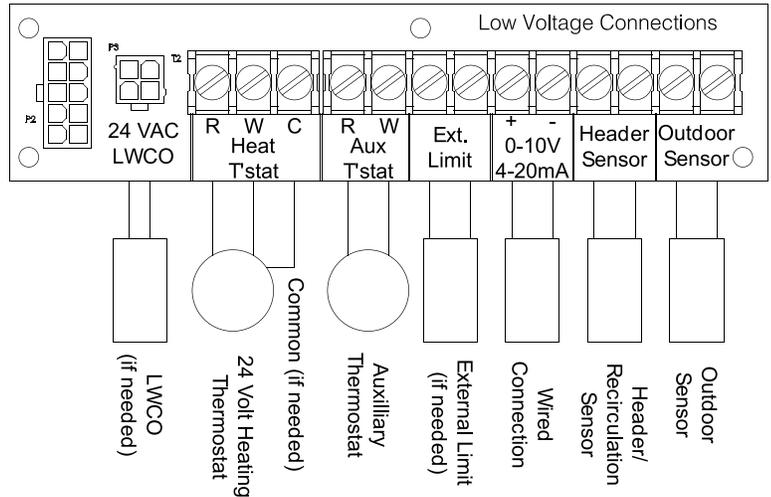

Figure 13-3: Low Voltage Connections
- Connect jumper, time of day clock or momentary push button to "Aux T'Stat" terminals per Figure 13-3.
- Connect recirculation temperature sensor to "Header Sensor" terminals per Figure 13-3.
NOTICE: Boiler is equipped with a UL 353 listed high water temperature limit. This limit provides boiler shutdown in event boiler water temperature exceeds set point of control. Certain local codes require an additional water temperature limit. If necessary, install an additional water temperature limit (Honeywell L4006 Aquastat). Wire as indicated in Figure 13-3.
1. All low voltage field connections to boiler are made on Low Voltage Connections terminal strip (see Figure 13-3) located on left side of bottom panel. Route all low voltage wiring through conduit knock out holes located on left side in front of terminal strip.